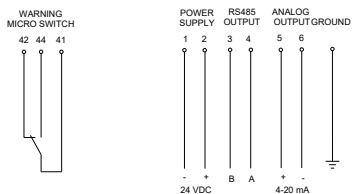

Figure 5
- x1 contact inverseur : signal de pré-alarme (bornes 42-44-41 --- Fig. 5)